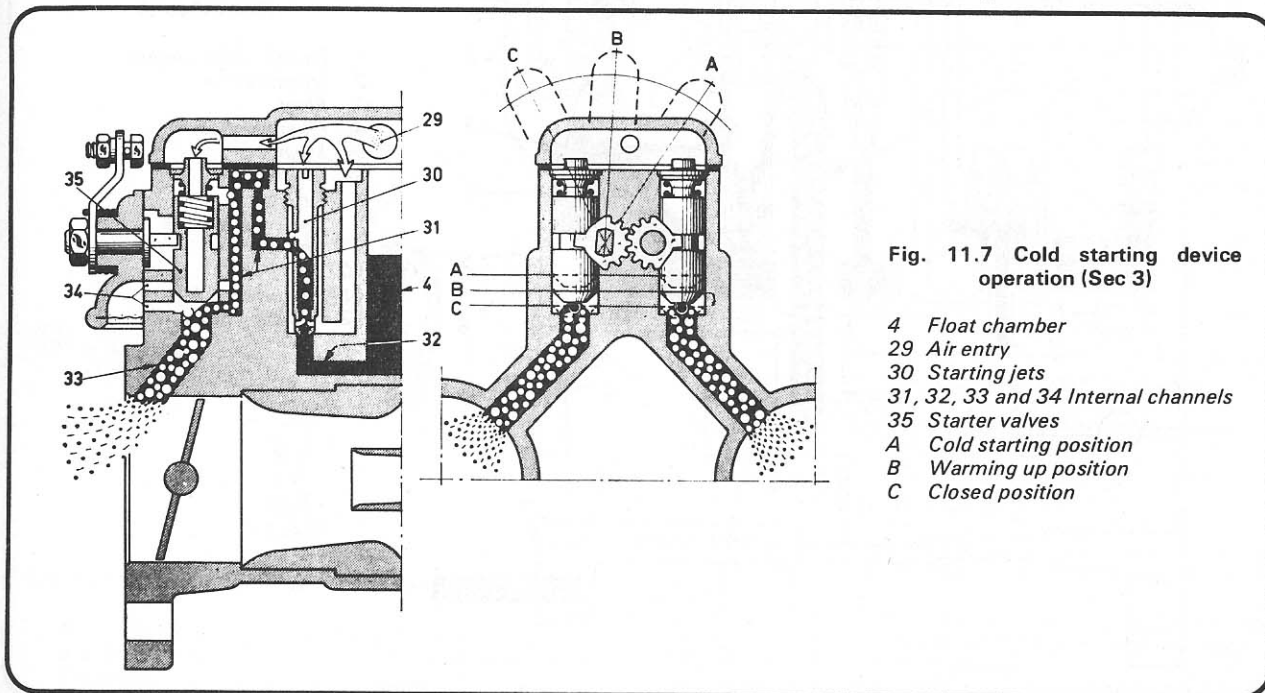

Fig. 11.7 Cold starting device operation (Sec 3)
Operation of the choke (or to be precise cold start) cable moves the starter device lever which, through two intermeshed sector gears, lifts the two starter valves off their seats. Reference to Fig. 11.7 will show that fuel from the float chamber (4) is drawn through the channels (32) to arrive at the starter fuel jets. Air entering the carburettor through hole (29) passes through the top and bottom of the starter jets (30) and emulsifies the fuel which is then drawn through the channels (31), past the starter valves (35), through the channels (33) and into the carburettor throats at the engine side of the throttle valves. It will be observed that additional air is introduced to the emulsified fuel through the starter valve spring retainer guide and through the starter device air filter and channels (34).